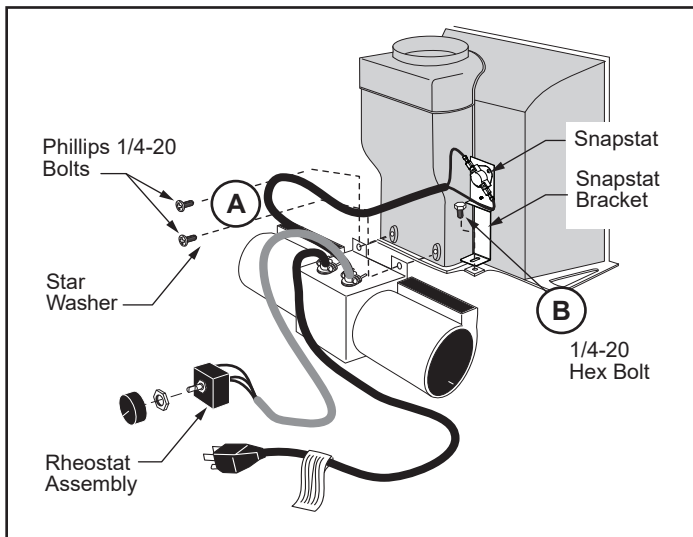

Figure 7 - Attach fan assembly and snapstat.
2. Attach the snapstat bracket to the stove with existing hex-head bolt passing through the bracket and into the stove base. ('B', Figure 7)